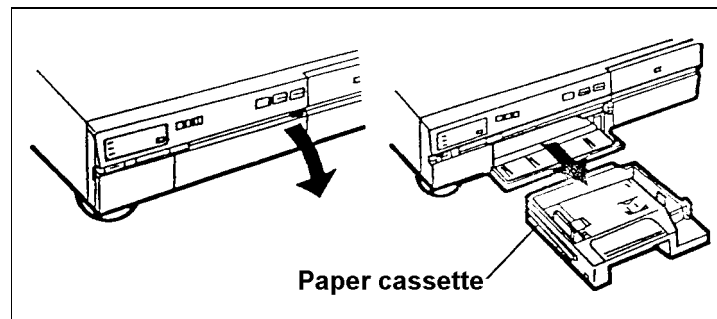

Figure 6-19. Removing the Paper Cassette
5. Open the cassette door and remove the paper cassette (Figure 6-19).